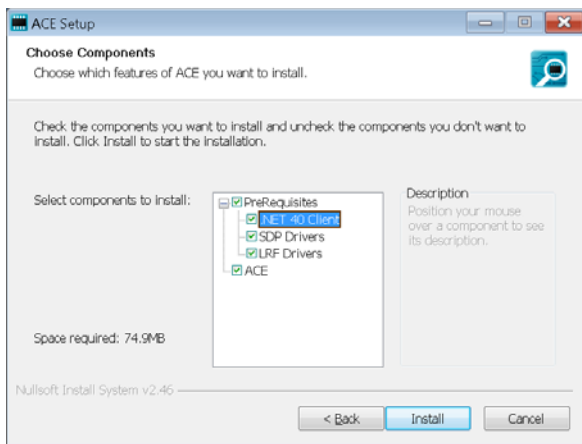

Figure 8. Required Drivers to Install with ACE
3. Install the latest version of the ACE software. During the installation, ensure that the SDP, LRF, and .Net driver installations are checked as well (see Figure 8).